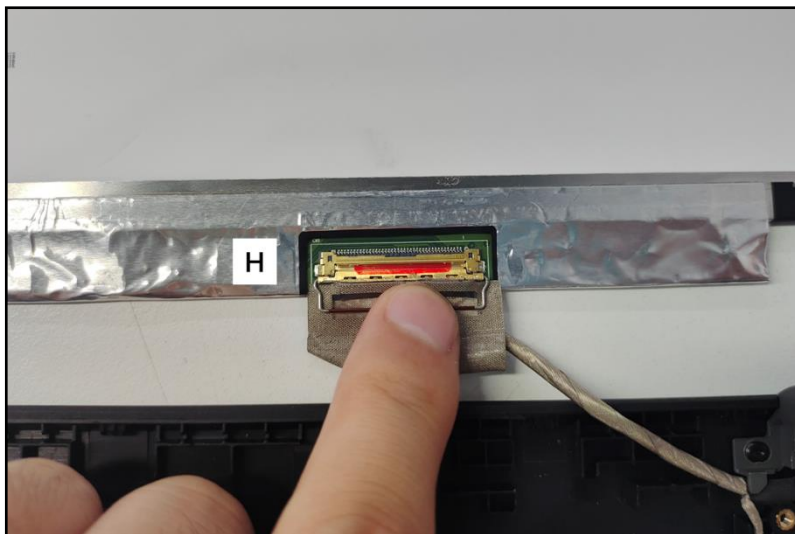

Figure 3-53. EDP Cable Removal
6. Disconnect the eDP cable from the LCD panel connector (H) (Figure 3-53). Then remove the LCD panel.